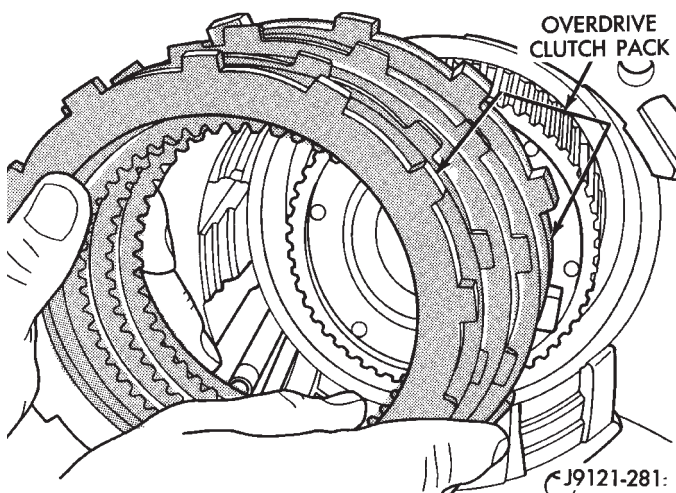

Fig. 6 Overdrive Clutch Pack Removal
(6) Remove overdrive clutch pack (Fig. 6). Note that thickest plate is positioned at rear of clutch pack.